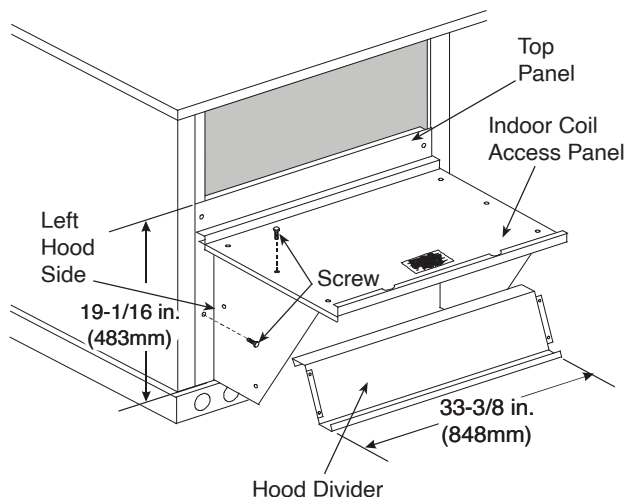

Fig. 12 — Economizer Hood Construction
2. Swing out indoor coil access panel and insert the hood sides under the panel (hood top). Use the screws provided to attach the hood sides to the hood top and the unit. See Fig. 12.
4. Insert the hood divider between the hood sides. See Fig. 12 and 13. Secure hood divider with 2 screws on each hood side. The hood divider is also used as the bottom filter rack for the aluminum filter.